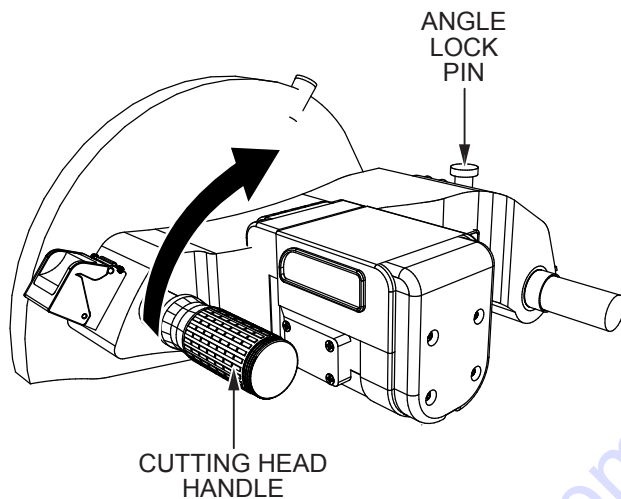

Figure 10. Raise and Lock the Cutting Head
1. Grab the cutting head handle, pull the angle lock pin, raise the cutting head to its highest position, and release the angle lock pin to secure the cutting head in place (Figure 10).